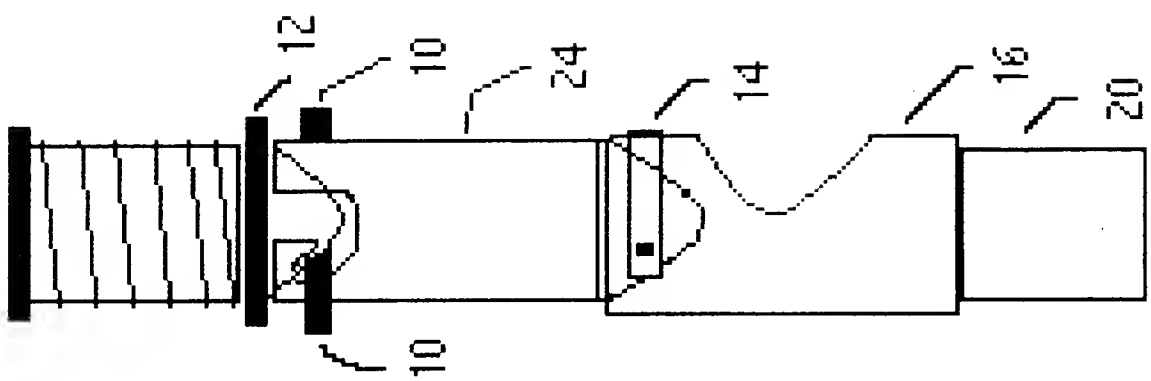

FIG. 10
- Fig 10 shows new configuration ~~(after assembly)~~ ^A OF SAID MODIFIED SPARK PLUG TERMINAL AND SAID MODIFIED SPARK PLUG